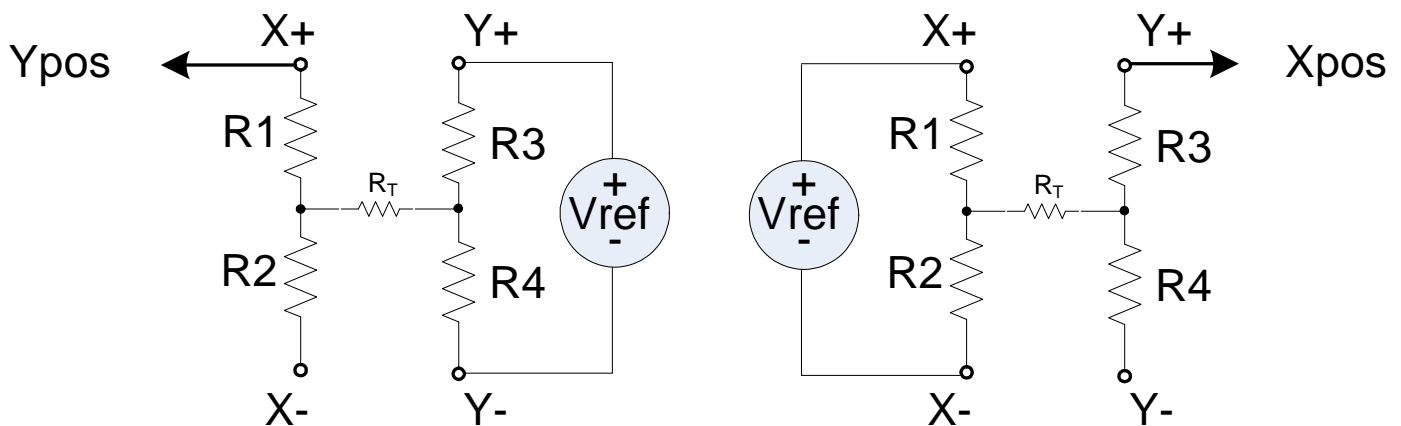

Figure 20. Ordinate (Y) and abscissa (X) coordinates measurement setup
The X coordinate is measured in a similar fashion with the bottom resistive sheet (X) biased to create a voltage divider by R1 and R2, while the voltage on the top sheet is measured through R3. Figure 20 shows the coordinates measurement setup. The resistance R_T is the resistance obtained when a pressure is applied on the screen. R_T is created by the contact area of the X and Y resistive sheet and varies with the applied pressure.